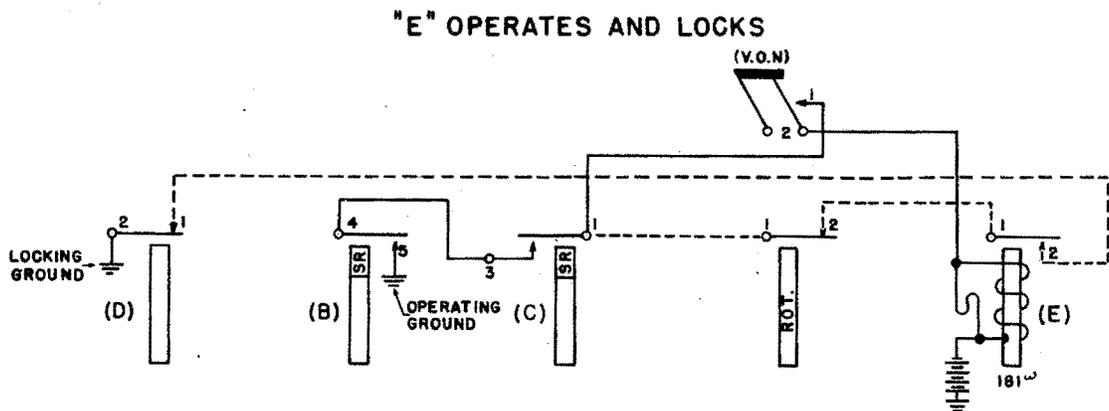

FIG. 5
Relay (E) operates (Fig. 5) from a ground on the 5-4 contacts of the (B) relay, 3-1 contacts of (C) relay, 1-2 contacts of the vertical off-normal (VON) springs, inductive and non-inductive 181 ohm windings of the (E) relay in parallel to battery.
Relay (E) locks (Fig. 5) from a ground on the 2-1 contacts of the (D) relay, 2-1 contacts of the (E) relay, 2-1 contacts (Rotary Int. Springs) of the rotary (ROT) magnet, 1-2 contacts of the vertical off-normal (VON) springs, inductive and non-inductive 181 ohm windings of the (E) relay in parallel to battery.